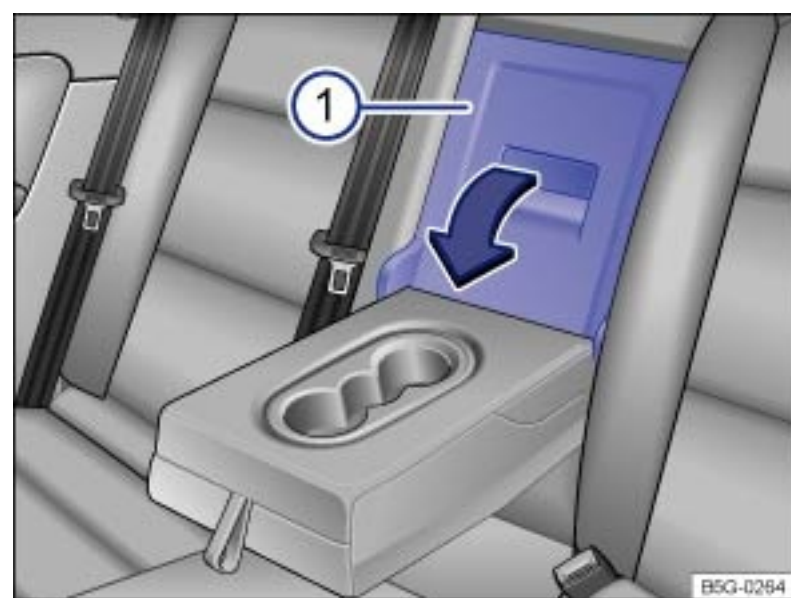

Fig. 99 In the rear seat backrest: Opening the luggage compartment pass-through.
- Pull the release lever in the direction of the arrow → Fig. 99 ① and fold the pass-through cover all the way forward.